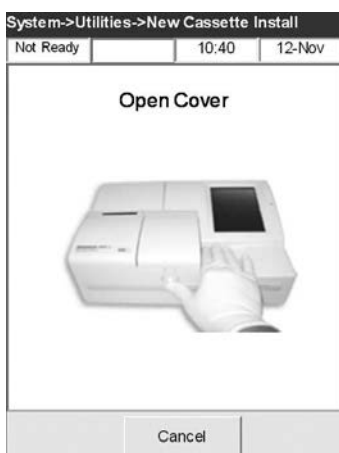

Fig. 2-17 Open SMC Cover
- Slide the latch up and press the release button to open the Sample Measurement Chamber (SMC) (Fig. 2-17).